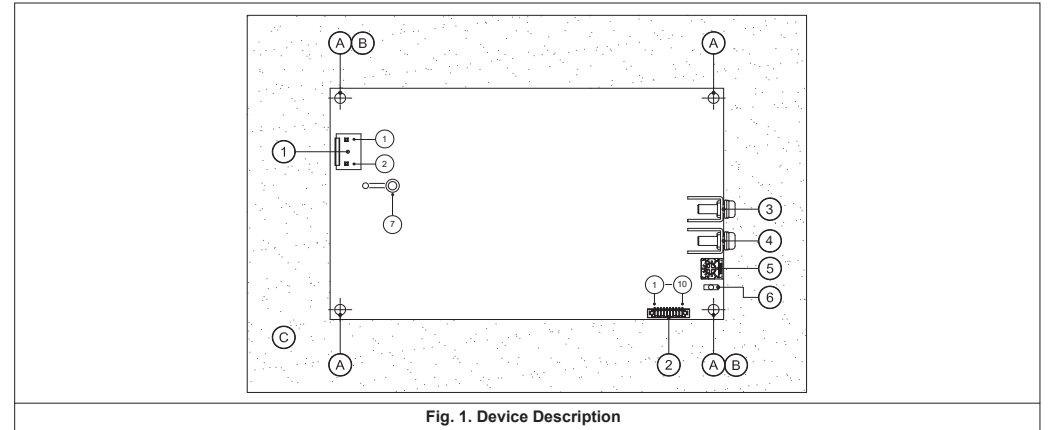

Fig. 1. Device Description
- For Protection against shock to Class I with PE (protection earth) and Class II with or without FG (functional ground) product, the two mounting holes (marked B in Fig. 1) need to be connected together to the system's protective earth or functional ground. Pollution degree and EMC performance with different connections please refer to product datasheet.
Refer to Fig .1.:
- 为使设备在连接保护地线(PE)状态下达到防冲击 Class I 标半年准，或在配备与不配备FG（功能接地）产品状态下达到 Class II 标准，两个安装孔（图1 B 标记处）需一同连接至系统保护地线或功能接地。不同连接之防污染等级与EMC性能敬请参见产品技术参数表。
参见图1: